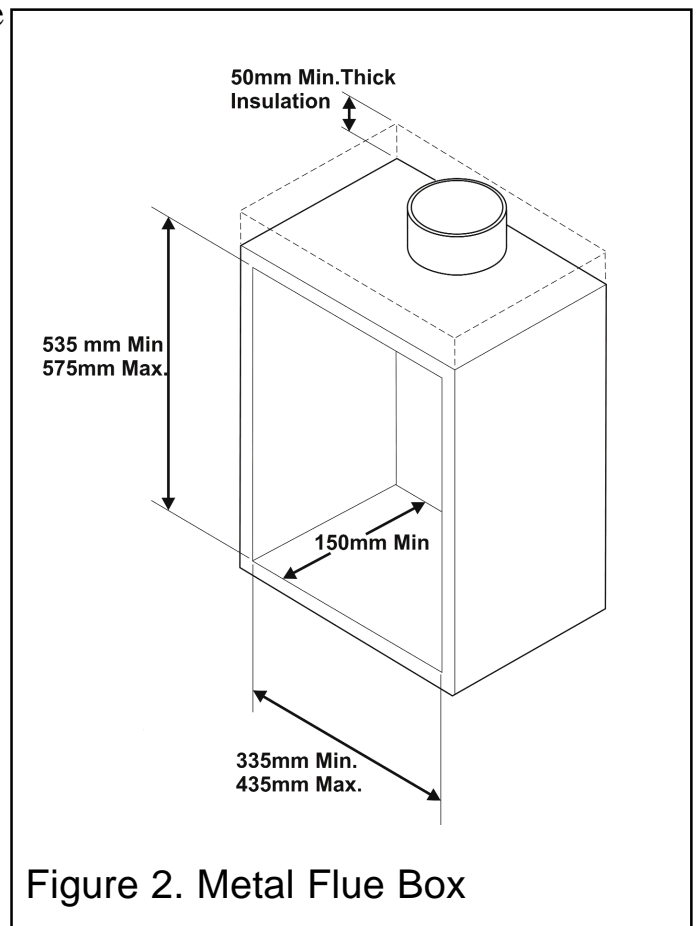

Figure 2. Metal Flue Box
3.2.2 To a fireplace incorporating a metal flue box conforming to BS715 with a minimum internal depth of 150mm. Incombustible mineral wool insulation of not less than 50mm thickness must be applied to the top surface of the firebox (See figure 2) and it must stand on a non-combustible hearth. See figure 1.
The whole of the top surface of the metal flue box must be covered with a minimum 50mm layer of mineral wool or equivalent insulation. (See figure 2).